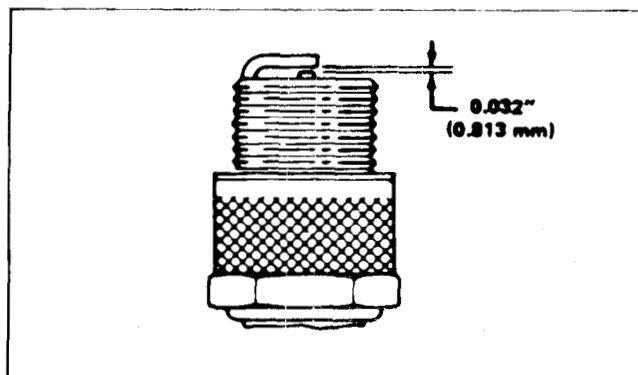

Figure 9
3. Set the air gap at .08 mm (0.032") as shown in Figure 9. Install correctly gapped spark plug and gasket seal. Tighten plug firmly.